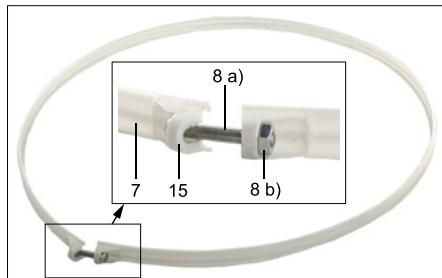

Fig. 15: Mounting fixing strip
6. Push the rotor (8) onto the motor axle (12). *The small transverse axis (14) at the end of the motor axis must lie in the recess of the rotor attachment. See Fig. 15 a).*- 7. Place the nut (9) on the rotor.
- 8. Tighten the nut clockwise. See Fig. 15 b).